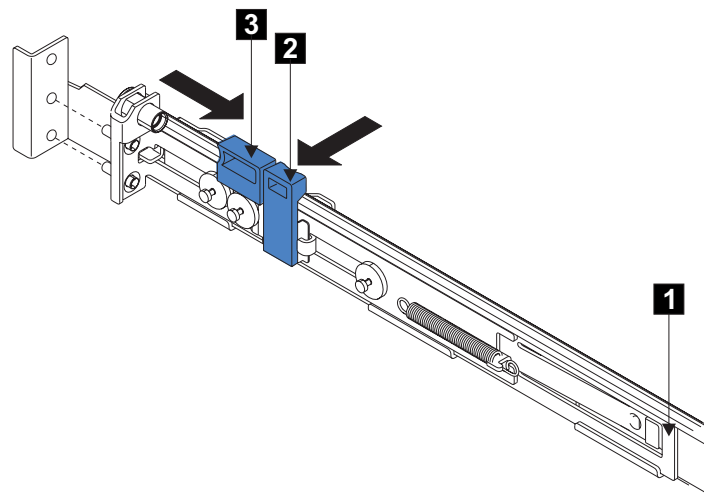

Figure 127. Opening the back latch-lock carrier assembly
7. Push the back rail bracket **1** (Figure 127) toward the front of the rail until it stops. The rail is now at its shortest adjustment.
14. Push the back rail bracket **1** (see Figure 127 on page 209) toward the rear of the rack and align the locating pins with the rack-mounting flange.
15. Push the latch lock **2** (see Figure 127 on page 209) away from the rail to release the carrier. The latch-lock carrier slides toward the rear of the rack, and the locating pins project through the holes that are in the rear flange and in the rear rail bracket.